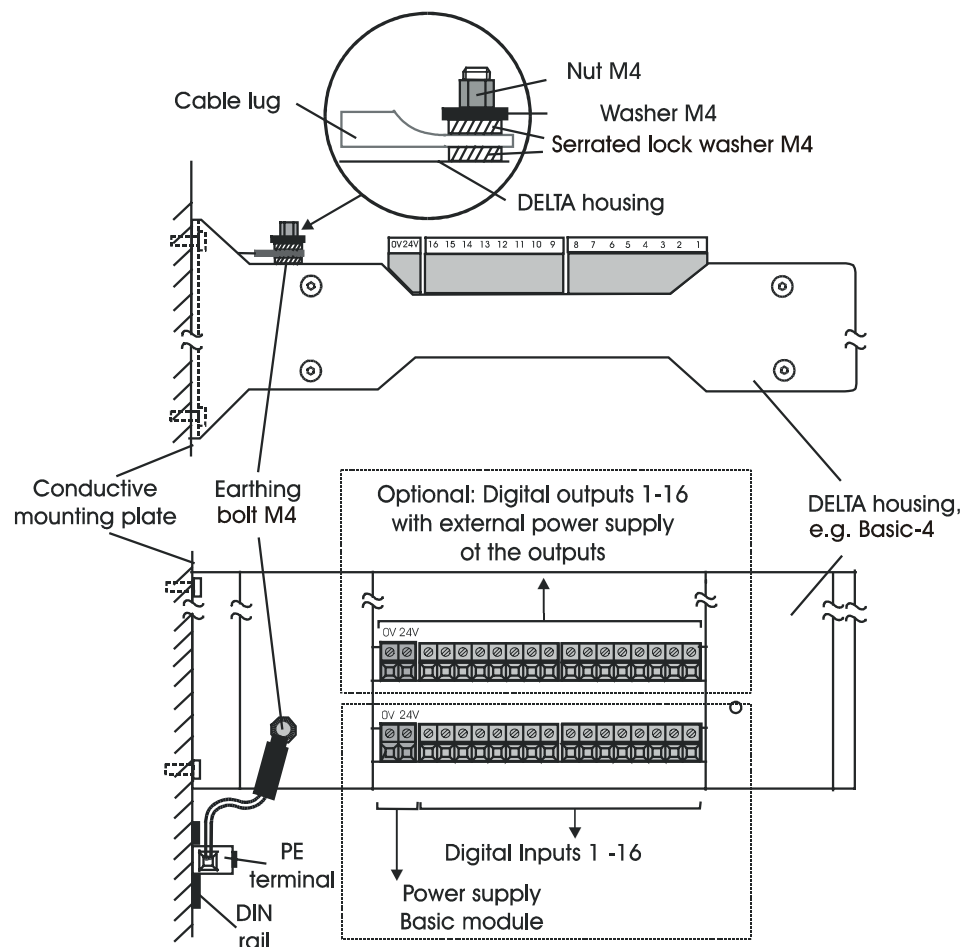

Fig. 1: Earthing the DELTA basic housing
- On the top face of the DELTA basic housing an earth-terminal bolt with a M4 thread is located. This earthing bolt must electrically be connected to a PE terminal by means of a PE conductor (conductor area: 1,5 mm2, colour: green-yellow) (refer to Fig. 1).